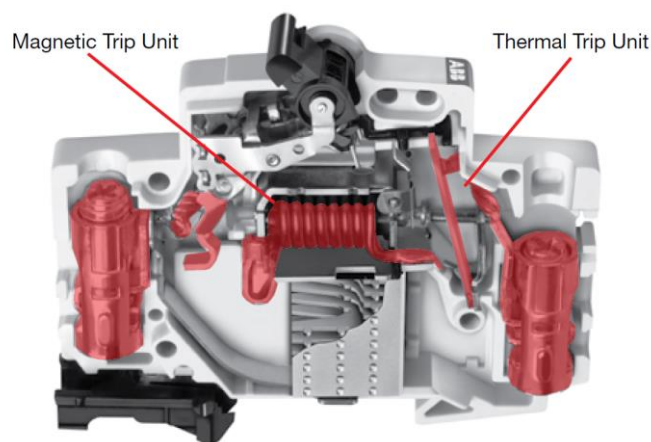

Figure 2. Trip units in a MCB (Source: [4])
- **Thermal/magnetic trip units:** typically, MCBs use an electromechanical (Thermal /Magnetic) trip unit to open the breaker contacts during an overcurrent event (Figure 2). The thermal trip unit is temperature sensitive and the magnetic trip unit is current sensitive. Both units act independently and mechanically with the breaker's trip mechanism to open the breaker's contacts.